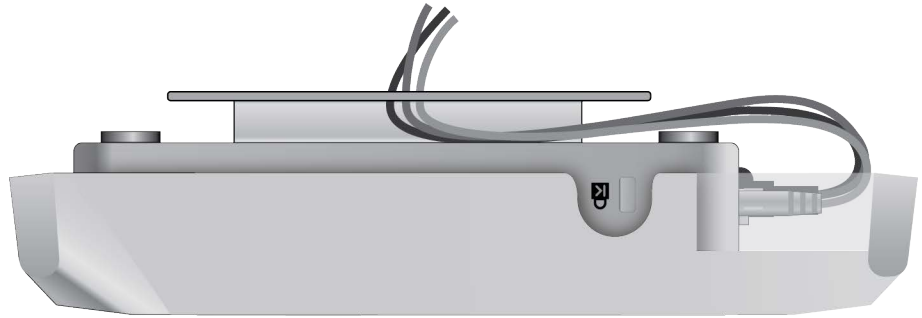

Figure 28. Fitting the Cables in the Cable Hide
4. Place the Ethernet cable(s) and power cable (if any) along the cable guides inside of the top cover in the cable hide space. See Figure 28.